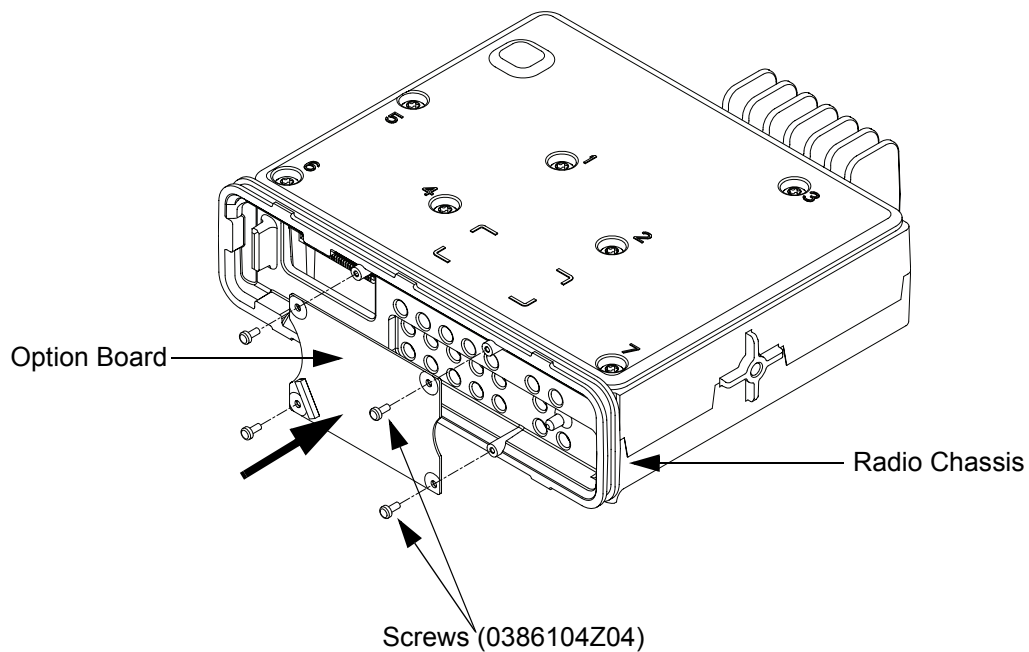

Figure 5-63 Assembling Option Board to Radio Chassis
2. Mount option board on the radio chassis using four screws and tighten the screws using a T6 TORX™ driver to 0.17 N-m (1.5 lbs-in). Refer to Figure 5-63.